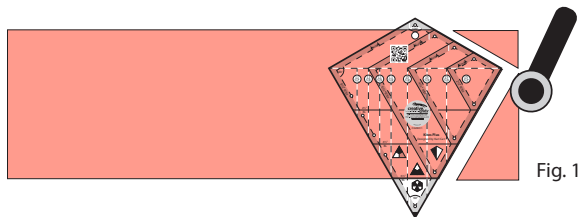

Fig. 1
1. Place the kite on the right edge of the fabric strip. Line up the coordinating Base Line (BL) with the bottom edge of the strip - in this case, 6½". The point of the 6½" kite will then line up with the top edge of the fabric strip. Cut along the right side of the template. Fig. 1